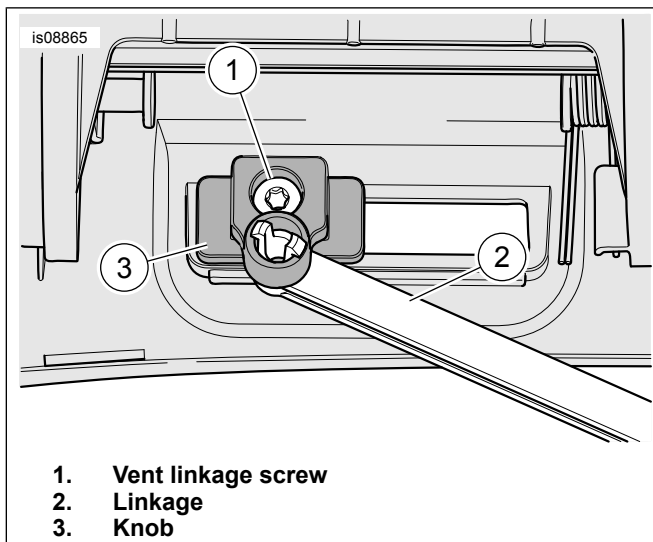

Figure 4. Vent Linkage Screw
4. See Figure 4. Remove screw (1). Remove linkage (2). Install on the new enclosure front. Tighten.